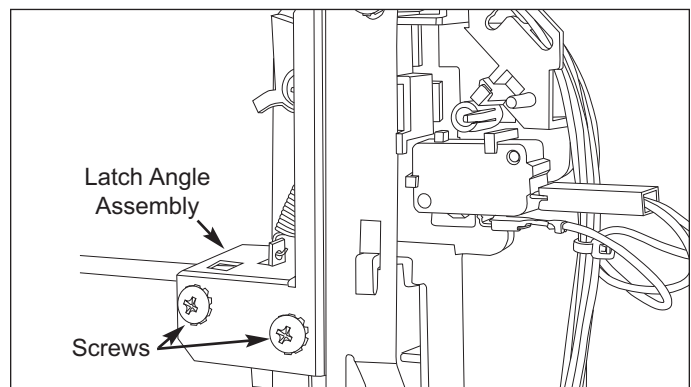

Figure 4-12. Latch Angle Assembly Removal
2. Remove two mounting screws from the right or left latch angle assembly, then remove angle assembly (See Figure 4-12).